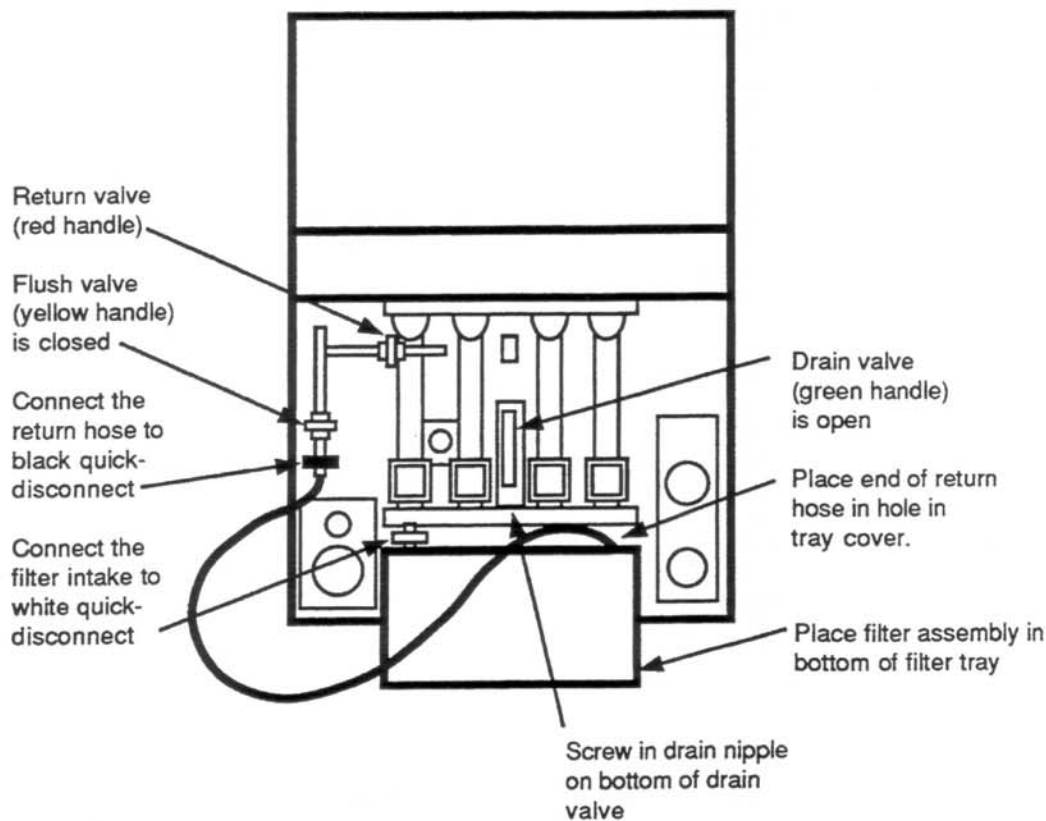

Fig. 18
- Figure 18 shows how to set up the fryer. Set the Melt Cycle-Off-Cook switch to the Off position. Set the Pump On-Off switch to the Off position. Set the Heaters On-Off switch to the Off position.